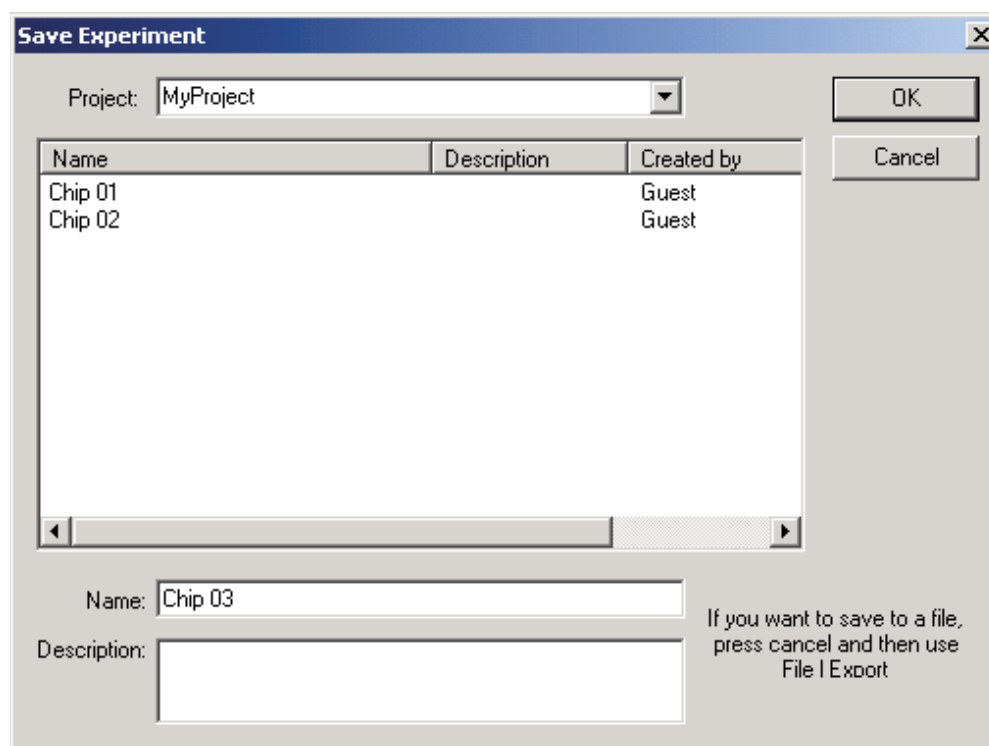

Figure 5-7: The **Save Experiment** dialog.
- To save an experiment, select **Save** from the **File** menu. If the experiment was opened from the current database, it will automatically save any changes into the database. If you want to save an experiment to a different project or with a different experiment name, select **Save As...** from the **File** menu to open the **Save Experiment** dialog (Figure 5-7).
- If the experiment was imported to the current database, or if you are using **Save As...** to save it with a different name or to a different project, choosing **Save** or **Save As...** from the **File** menu will open the **Save Experiment** dialog (Figure 5-7).